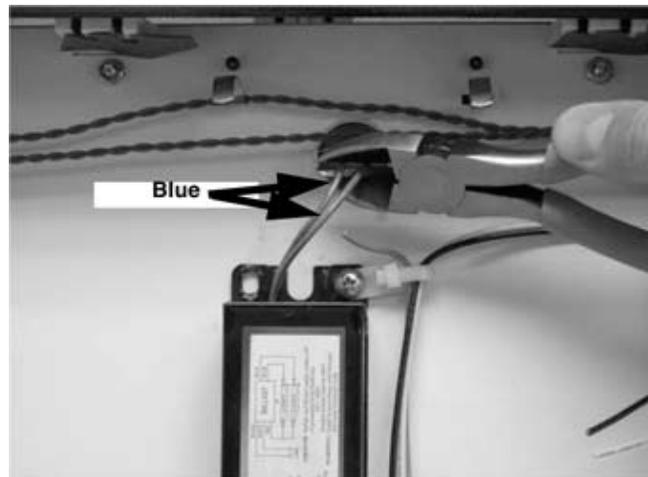

Figure 23.
- Cut ballast blue wires, see Figure 23 .